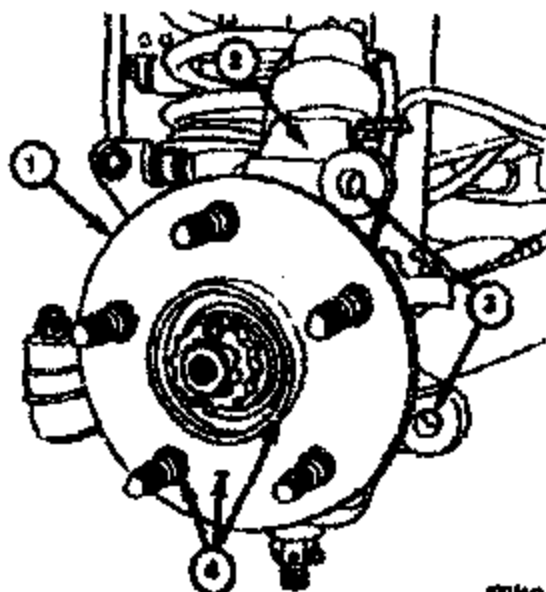

Fig. 1 CLEAN WHEEL HUB SURFACE
8. Thoroughly clean the surface of the wheel hub/bearing assembly where it mates to the brake rotor. The hub surface must be free of corrosion and dirt so that the new brake rotor nests flush against the hub. This important step will prevent excess rotor lateral runout (Fig. 1).